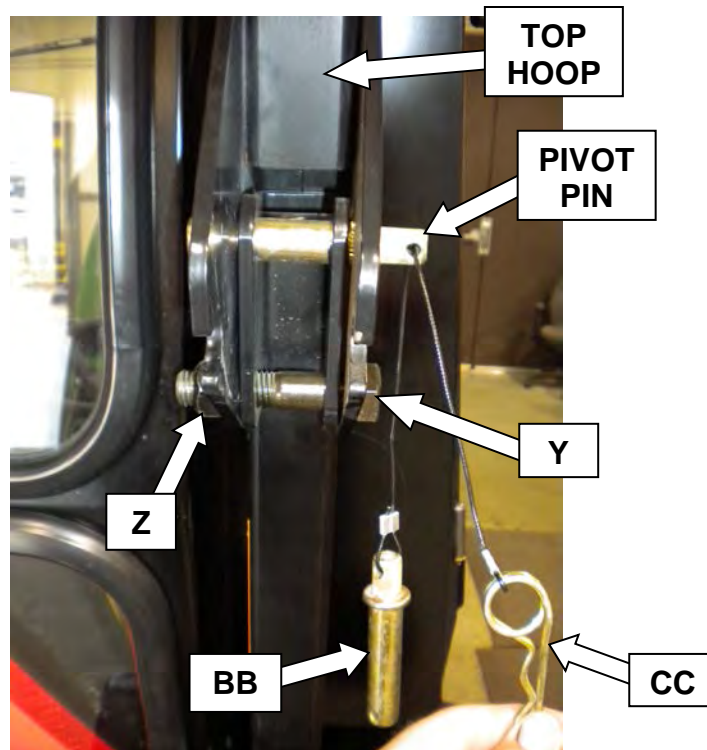

Figure 27
52. **Important! The ROPS is not allowed to fold-down once cab is installed.** To install Anti-Folding ROPS hardware, remove folding pin (BB) with retainer clip (CC) and install $\frac{3}{4}$ x 3-1/2" long bolt (Y) and $\frac{3}{4}$ " top lock nut (Z) into pin locations on each side of the ROPS, as shown in **Figure 27**.